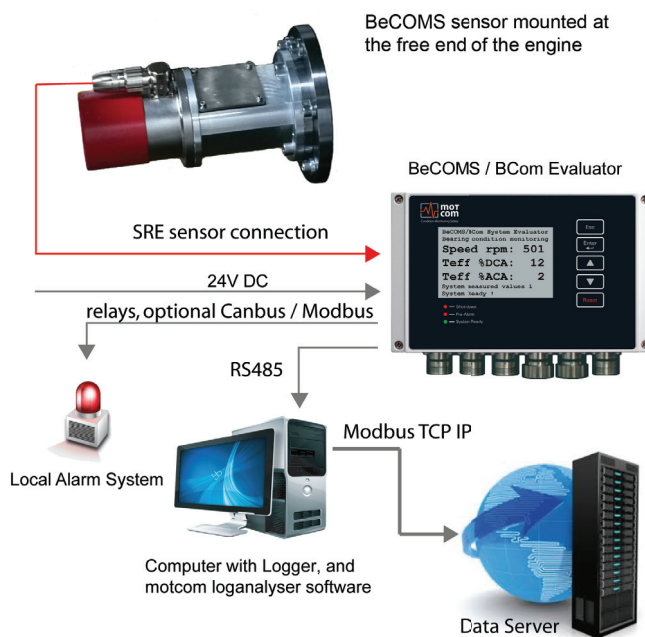

Fig. 3.1 System connection overview
- one Data Logger PC/Notebook complete installed with BeCOMS® Data_Logger Software (able to connect with external Data Server over Modbus TCP/IP, see Fig. 3.1) and one CD including Software installation files and a soft copy of this User Manual,